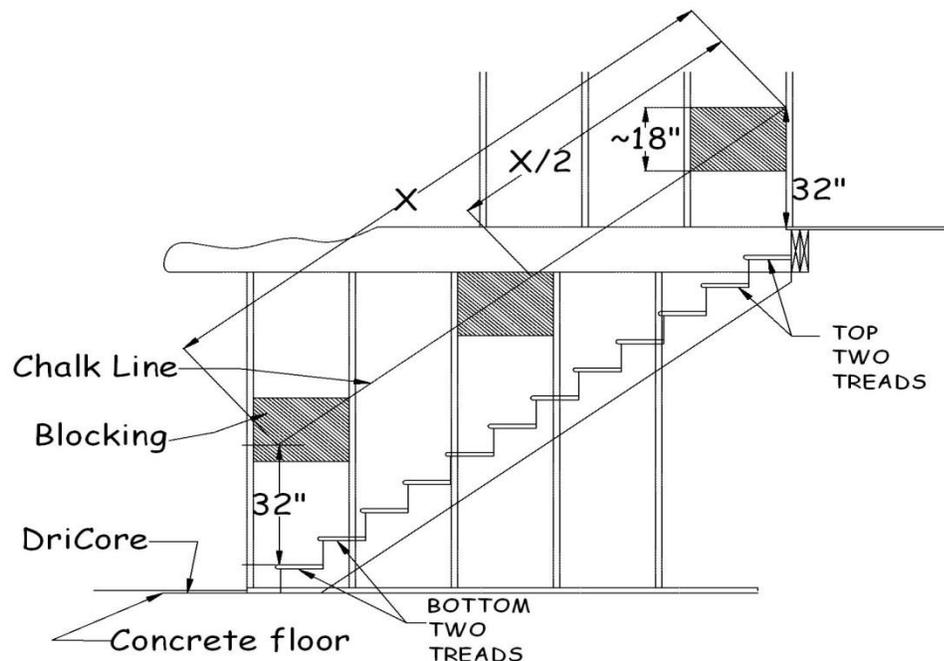

Figure 10-6. Blocking For Handrail.
2. The handrail bracket bottom screws will be mounted approximately 31" above a line that is defined by the nose of the treads. This will place the top of the handrail between the required 34" and 36" above the nose of the treads. To provide some latitude in the placement, measure up 32" from the decking, vertically at the edge of the floor deck, and mark the wall at that height. At the bottom of the stairs, again measure up 32" from the nose of the bottom stair tread. Snap a chalk line between the top and bottom marks. The blocking must be installed so that the top corner toward the top of the stairs is on or above this chalk line, and the bottom corner toward the bottom of the stairs is on or below this line (see Figure 10-6).
3. For blocking, use a combination of scrap 2x12's, 2x10's or 2 x6's to equal a minimum height of 18" (see Figure 10-6). The extra height helps to ensure that handrail brackets will be secured to the blocking after sheetrock is installed.